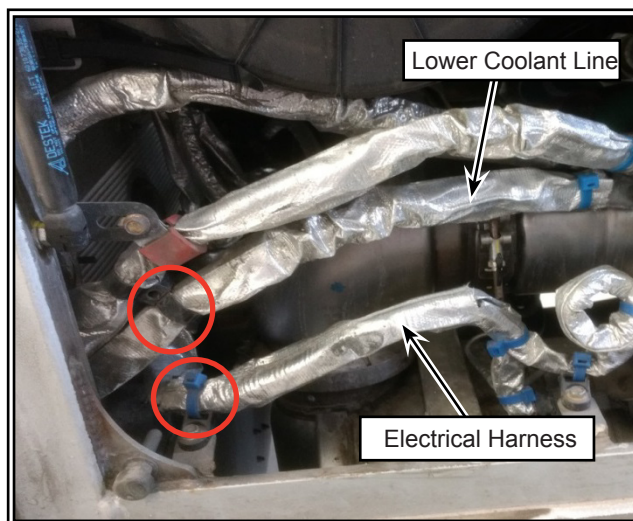

Figure 9 - Removal of Tie Wraps
- 1.12. Remove and discard the tie wraps holding the electrical harness and lower coolant line (see Figure 9).